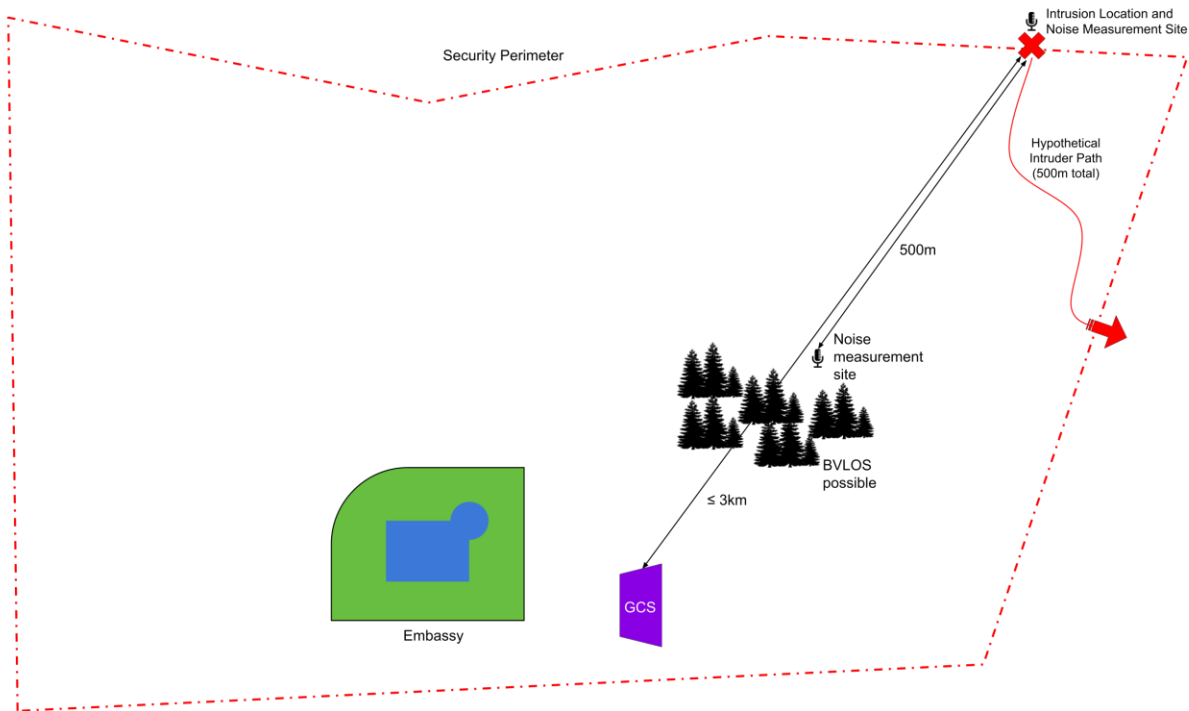

Figure 3 - Task 2 Schematic for Intruder Detection and Tracking
37. A schematic of the Task 2 Mission Requirements is shown in Figure 3. Note that this is just one possible configuration. The intrusion can be detected at any location on the security perimeter and follow any path inside, outside, along or across the security perimeter. The shape and dimensions of the security perimeter around the embassy is classified and will be revealed during the on-site Embassy Security briefing. Prepare for VLOS and BVLOS operations. The UAS may land or maneuver anywhere.